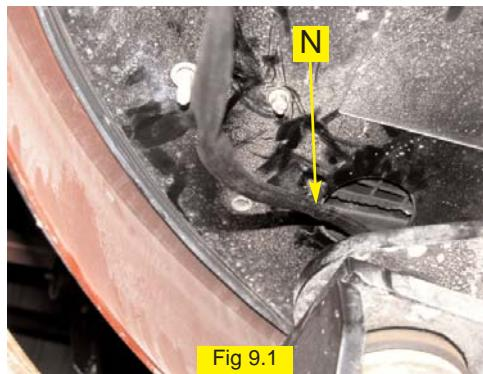

Fig 9.1
Route the valve control cable (N) into the cab through a hole in the floor in the right front corner as shown. (Figure 9.1 and 9.2)